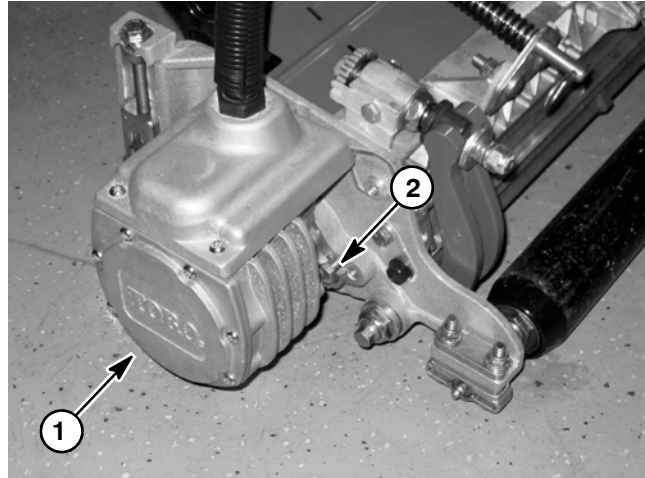
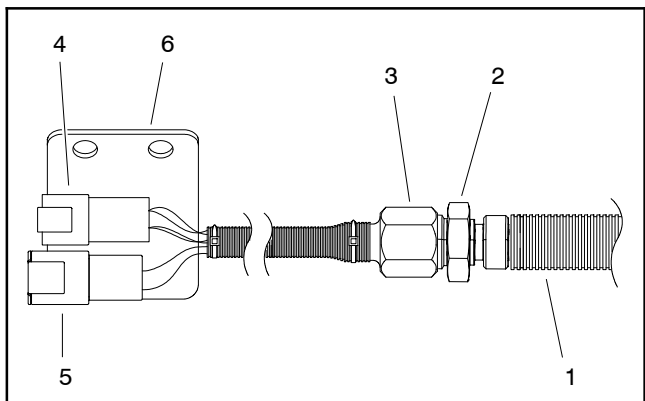

Figure 91
Figure 93
3. Remove cutting reel motor from cutting unit (Fig. 91):
A. Loosen two (2) cap screws that secure the cutting reel motor to the cutting unit side plate.
- 3. Make sure that the two (2) cap screws for the cutting reel motor are installed into the cutting unit side plate with approximately 1/2 inch (12.7 mm) of threads exposed on each screw.
- 4. Secure cutting reel motor to cutting unit (Fig. 91):
- B. Rotate the motor counterclockwise until the motor flanges are encircling the cap screws in the cutting unit side plates. Tighten two (2) cap screws to secure cutting reel motor to cutting unit.
5. If cutting reel motor was removed from machine, connect reel motor cable to machine wire harness (Fig. 93):
- A. Connect two (2) reel motor cable connectors to machine wire harness.